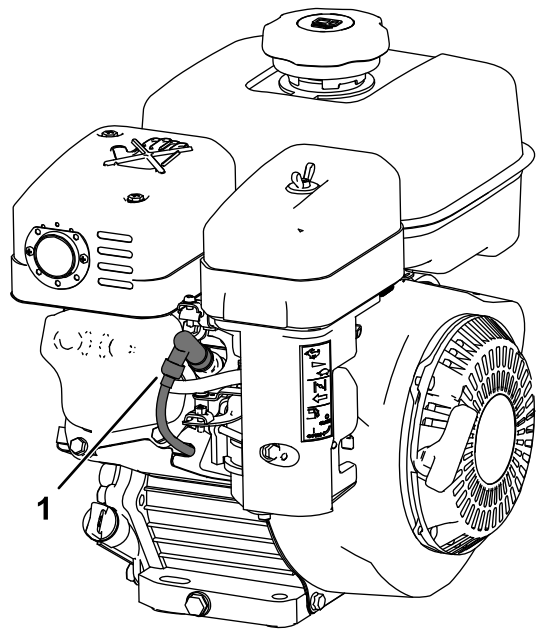

Figure 56
6. Disconnect the spark-plug wire (Figure 56).